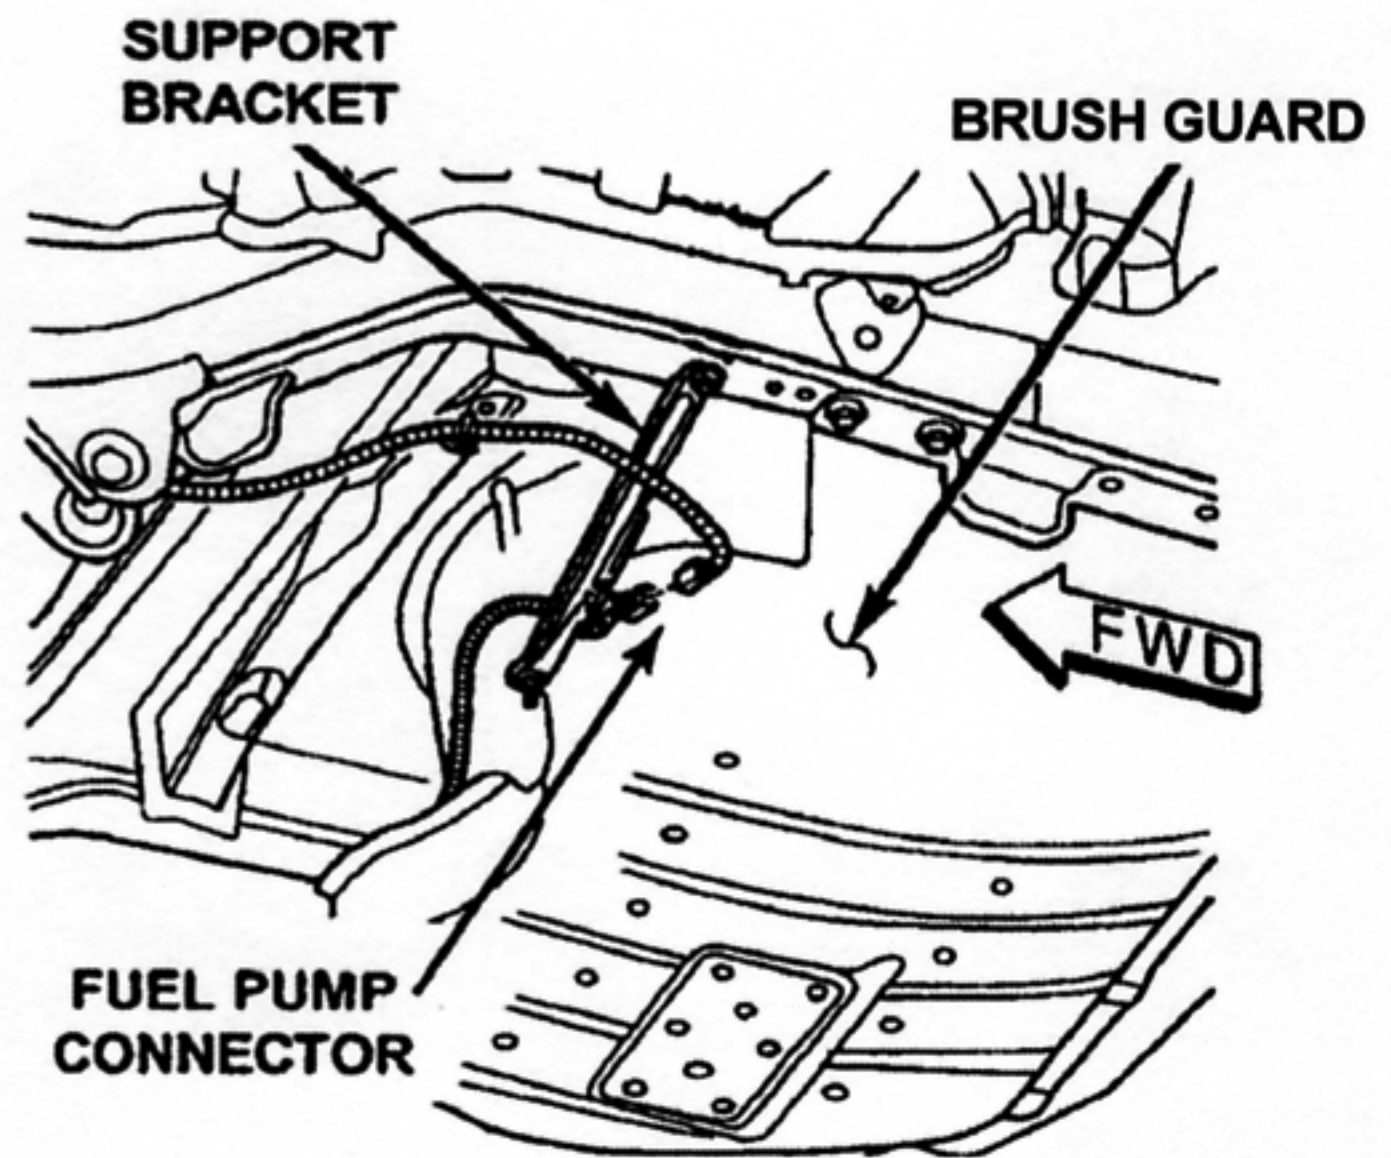

Figure 3
5. Loosen, but do not remove, the bolts for the front brush guard-to-frame support bracket (Figure 3).
16. Tighten the front brush guard-to-frame support bracket bolts (Figure 3).